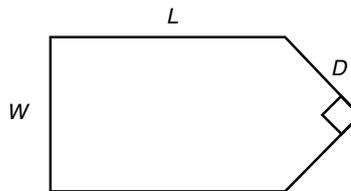

Figure P12
12. A fence around a field is shaped as shown in Figure P12. It consists of a rectangle of length  $L$  and width  $W$ , and a right triangle that is symmetrical about the central horizontal axis of the rectangle. Suppose the width  $W$  is known (in meters) and the enclosed area  $A$  is known (in square meters). Write a user-defined function `le` with  $W$  and  $A$  as inputs. The outputs are the length  $L$  required so that the enclosed area is  $A$  and the total length of fence required. Test your function for the values  $W = 6$  m and  $A = 80$  m2.